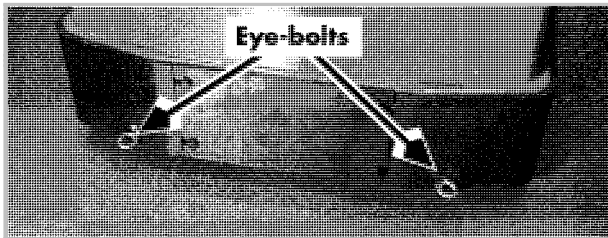

Figure 2-6. Eye-Bolts Installed for Transport
- a. Install eye-bolts (3/4 in. [19 mm] thread size) in holes in the bumper. See Figure 2-6.